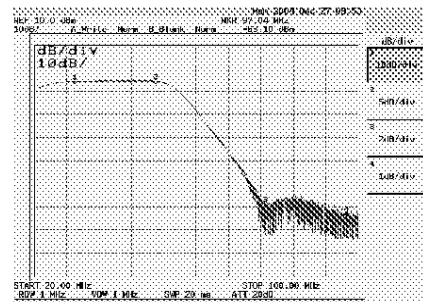

Fig. 6
- Check that the passing band of the section is similar as the one in Fig.6 and able to cover the whole IF band from *30MHz* to *50MHz*.